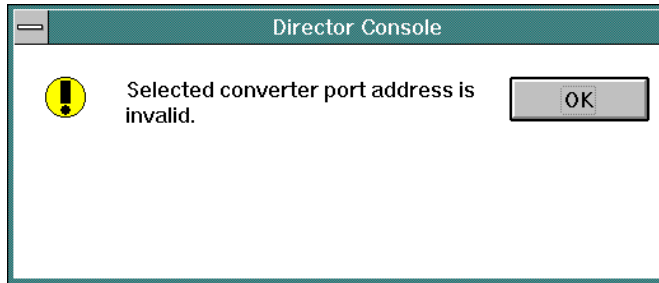

Figure 125. FICON Diagnostics Message Box
**Note:** The *FICON* option performs diagnostics only for addressable FCV ports. If an attempt is made to perform LED, XDF Laser, or unaddressable FCV port diagnostics using the *FICON* option, the following message box appears (Figure 125).